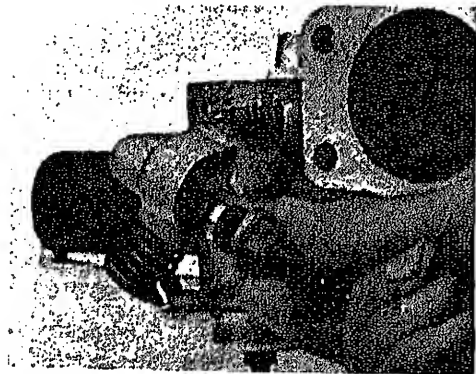

Fig 26. Dismantling nipple with fuel strainer
- ⑦ Nipple 9210 0401 with fuel strainer 9210 0403 ..... Figs. 26—27